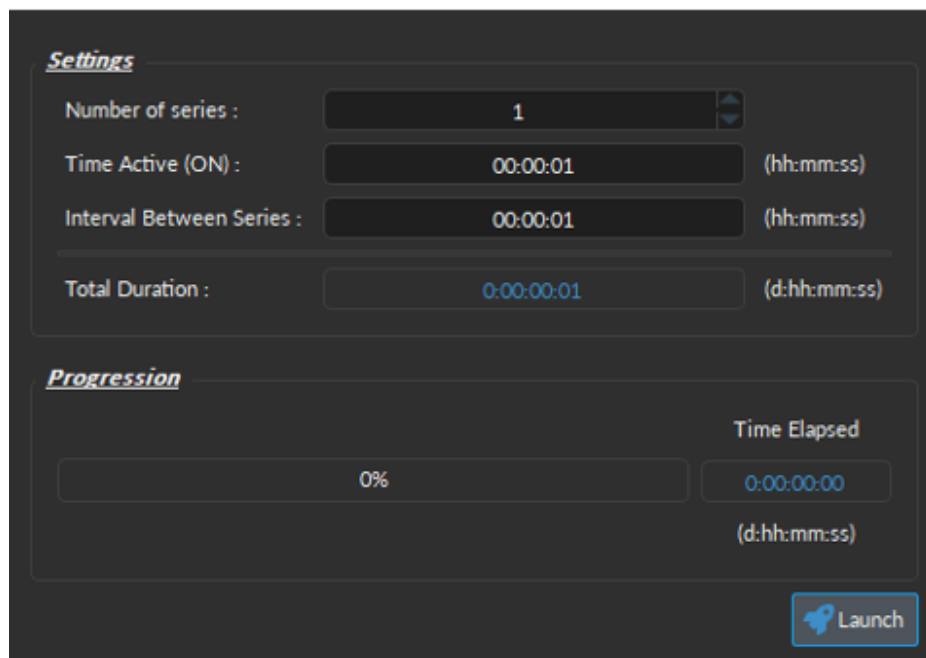

Figure 4.13: Time Series Window
2. The **Time Series** button opens the Time Series window (Fig. 4.13). This tool allows all channels to share the same timing.